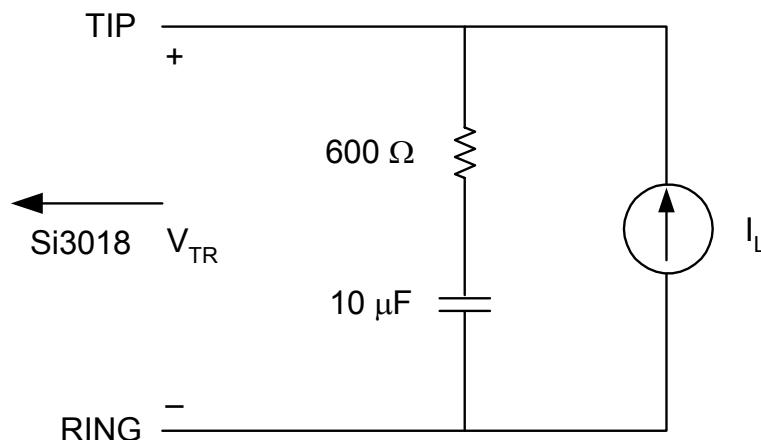

Figure 1. Test Circuit for Loop Characteristics
(V_D = 3.0 to 3.6 V, T_A = 0 to 70 °C for K-Grade, see Figure 1)
2. Measured at TIP and RING with 600 Ω termination at 1 kHz, as shown in Figure 1.